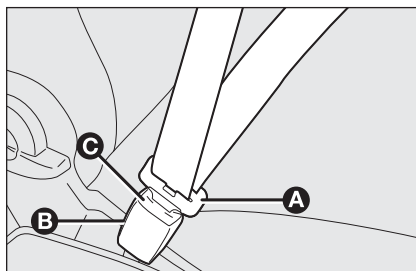

fig. 1
To fasten the seat belts, take hold the tongue **A**-fig. 1 and insert it into the buckle **B**, until hearing the locking click.
*Never press button C-fig. 1 when travelling.*